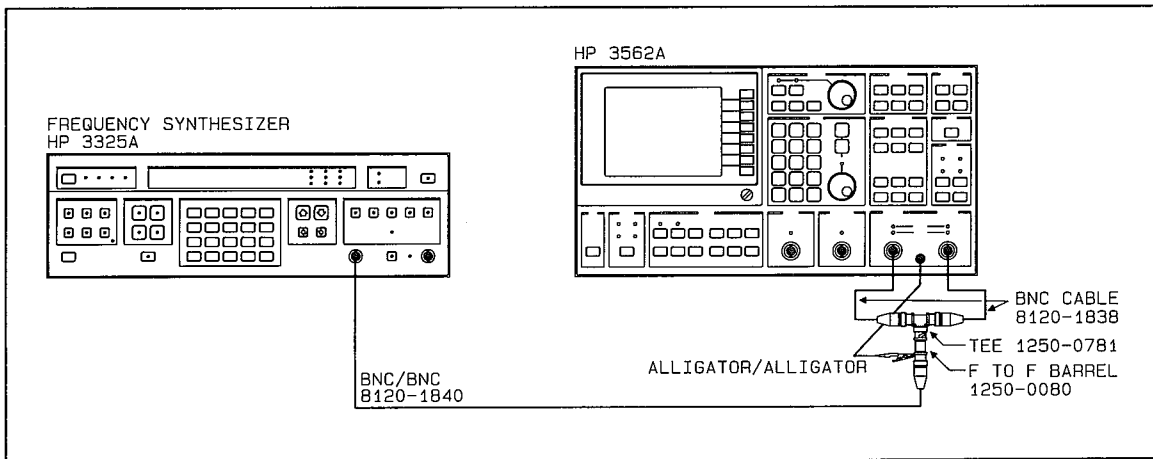

Figure 2-28 Common Mode Rejection Test Setup #1
- A. Connect the test instruments as shown in figure 2-28. Refer to "Initial Equipment Setup," paragraph 2-20, for unspecified parameters.